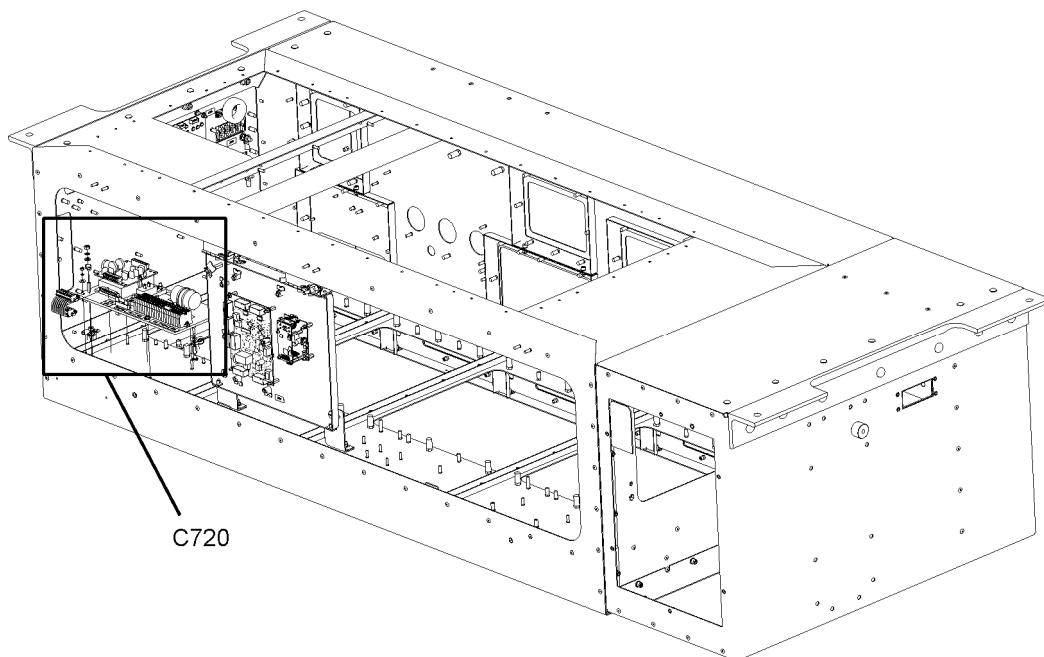

Figure 5-57: Location of C720
3. Locate C720. See Figure 5-57 for the location of the C720.